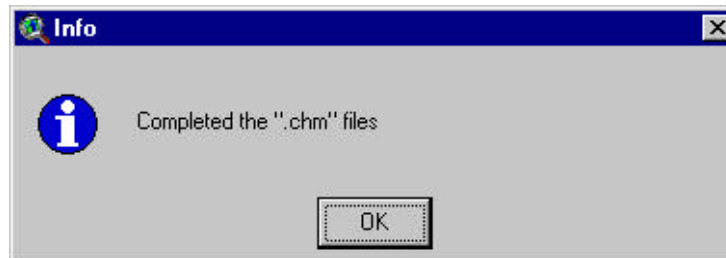

Figure 8.23
- j. From the **Input** menu, select **Write Soil Chemical Data (.chm)** (or press `Ctrl+L`). This selection generates the HRU soil chemical data (see *Soil and Water Assessment Tool User's Manual, Version 2000*, Chapter 23). When the data files have been written, a message box will pop up (Figure 8.23).